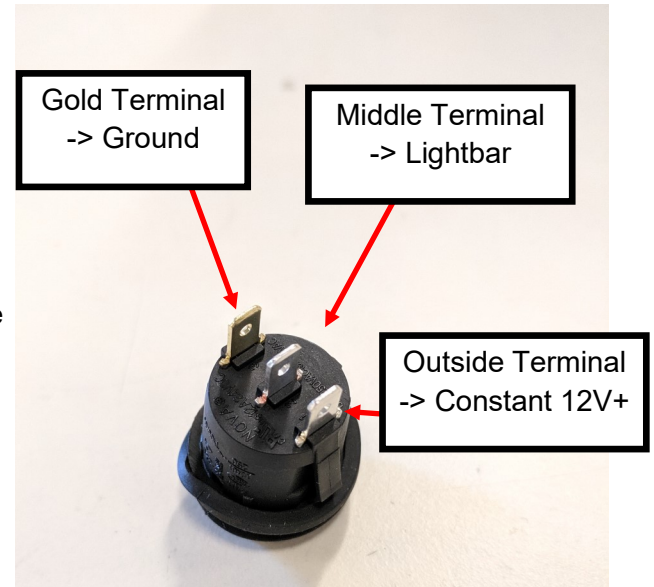

Figure 5. Switch terminal identification
2. Take a switched positive 12 volt power and tie it into the green wire. When 12 volt positive is applied to the green wire, the Blade will strobe. If using the provided switch, connect the gold terminal to vehicle ground, the middle terminal to green wire, and the final terminal to a constant 12 volt source (**Figure 5**).
3. Take a switched positive 12 volt power and tie it into the white wire. If using the provided switch, connect the gold terminal to vehicle ground, the middle terminal to white wire, and the final terminal to a constant 12 volt source (**Figure 5**).